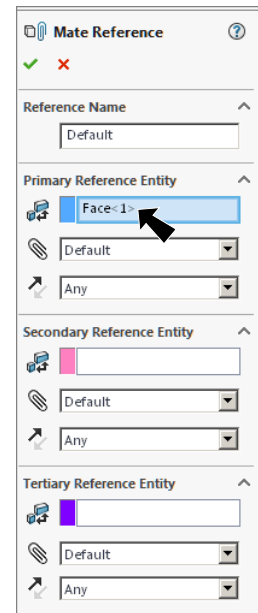

Fig. 23
Step 3. In the Mate Reference Property Manager click OK , **Fig. 23**.